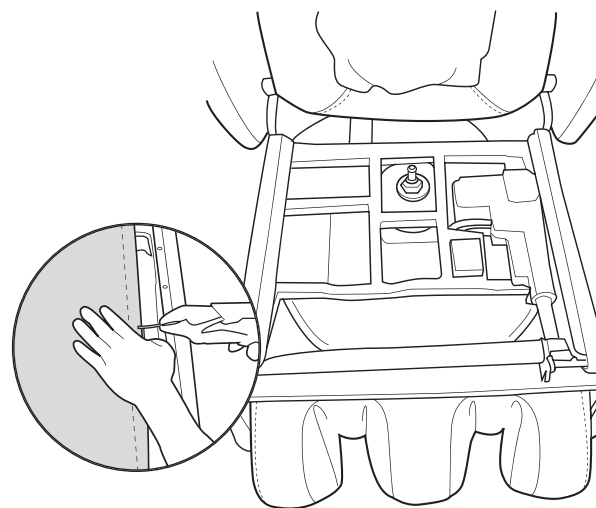

Fig.2
2. If you are replacing the seat canvas, use a vice grip to remove the springs from one side of the canvas, remove the remaining springs with your fingers, then remove the canvas from the chair base (Fig.2).